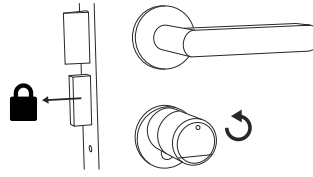

Fig. 3
- 2 The cylinder is now released and the lock can be opened (Fig. 2) or locked (Fig. 3).